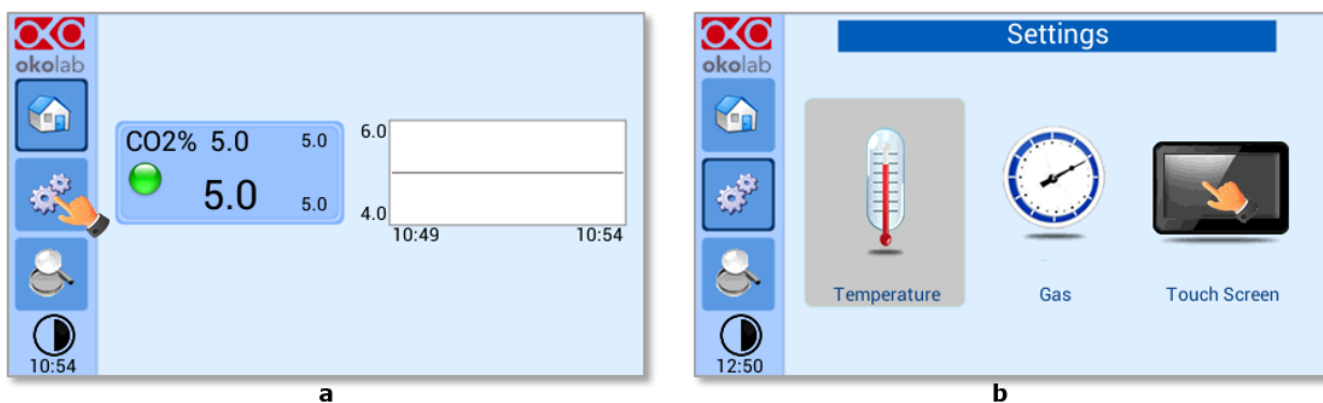

Figure 55 (a) How to enter the setting menu; (b) how to enter the Touch Screen menu
1. Press on *Settings* icon  (Figure 55, a) and press on *Touch screen* icon  on the window that opens next (Figure 55, b).